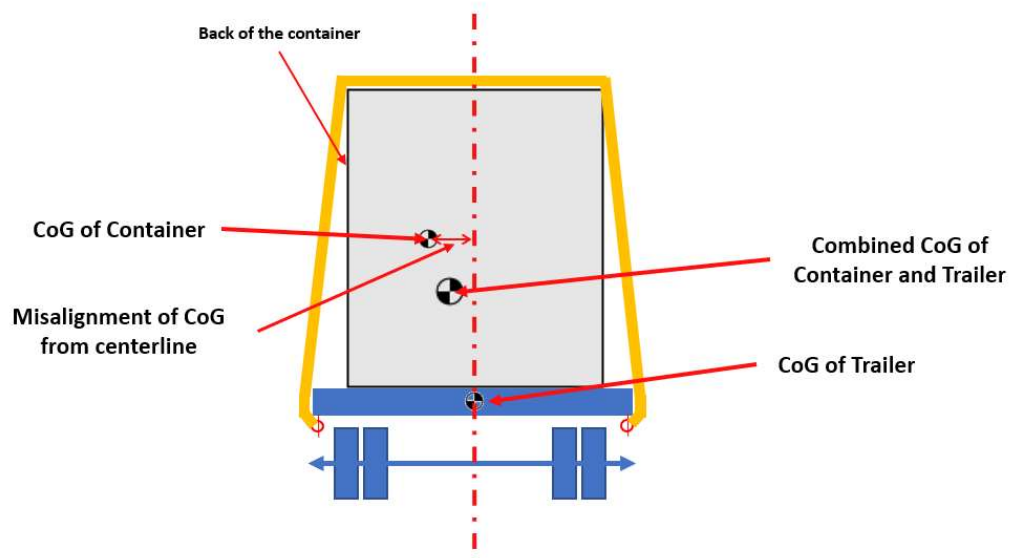

Figure 4: Combined CoG of Container and Trailer
5. Because the Center of Gravity (CoG) of SolBank3.0 series is not at the center of the product. It is closed to the back side. Please see the figure 4 for the schematic presentation of CoG misalignment. Due to the misalignment, when turning, the trailer' speed should refer to the Table 2 Turning Speed Limit Reference.